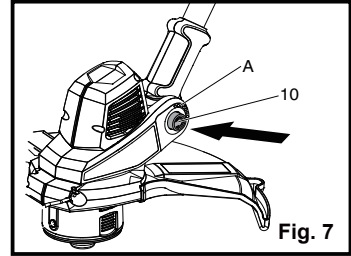

Fig. 7
- To pivot the head, push the pivot button (10) and adjust to any of the 7 positions as shown (A) (Fig. 7).